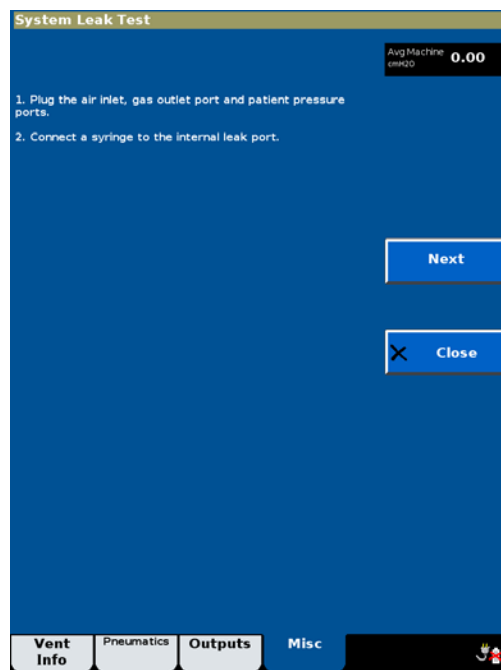

Figure 8-13: System Leak Test Screen
- $\frac{9}{16}$ - $\frac{3}{4}$ in. tapered plug (2)
4. Touch **Service, Misc**, then touch **System Leak Test** and follow the onscreen prompts (Figure 8-13).